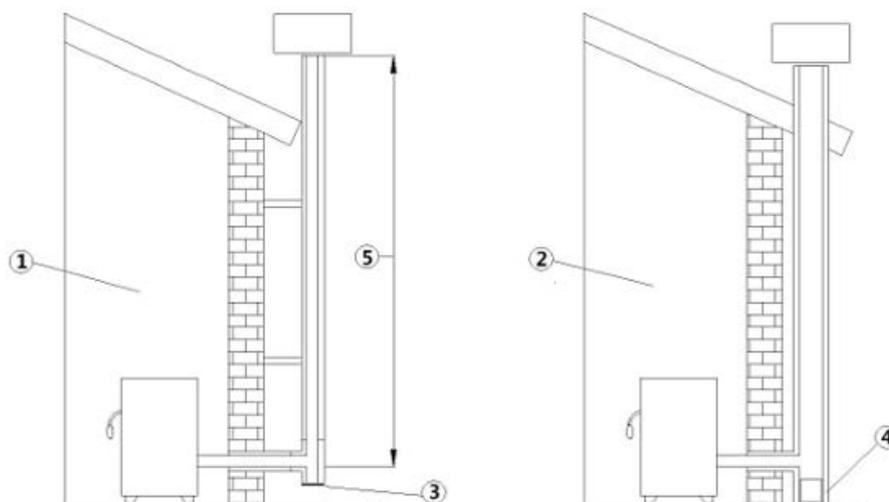

Fig. 1 - Chimney Flues
LEGEND	Fig. 1
- The chimney flue must be sole (see Fig. 1) with insulated stainless-steel pipes (1) or installed on the existing chimney flue (2).
- Both this solutions must be endowed with an inspection plug (3) and/or an inspection door (4).